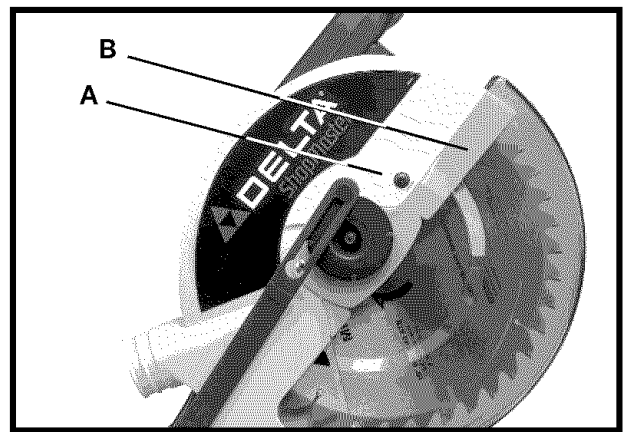
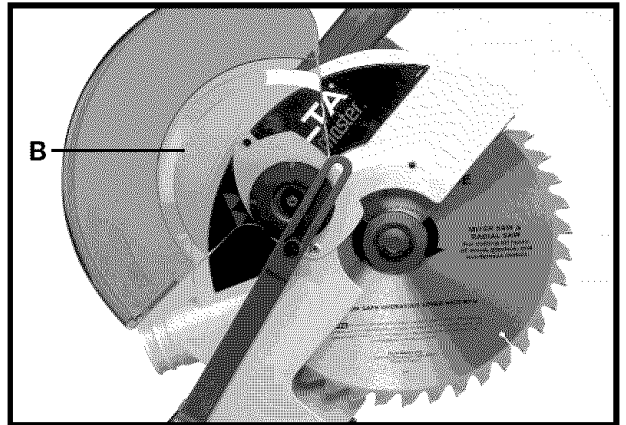

Fig. 39
Fig. 40
2. Remove screw (A) Fig. 39 and rotate cover (B) to the rear (Fig. 40).